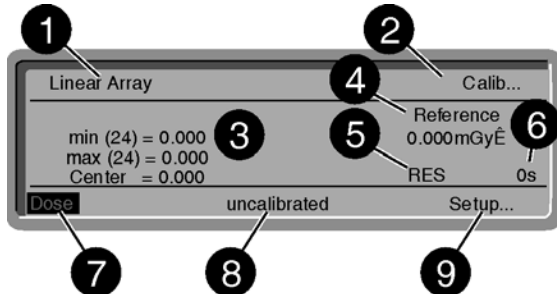

Figure 8-4: Measuring screen Linear Array
MULTIDOS will briefly show the start-up screen and then the measuring screen (Figure 8-4). After power up and during operation MULTIDOS runs automatic self-tests.
The measuring screen Figure 8-4 presents information and controls. Menus for changing the settings are callable via the control.
- Position the cursor on "Setup..." (9, Figure 8-4) and press ENT.